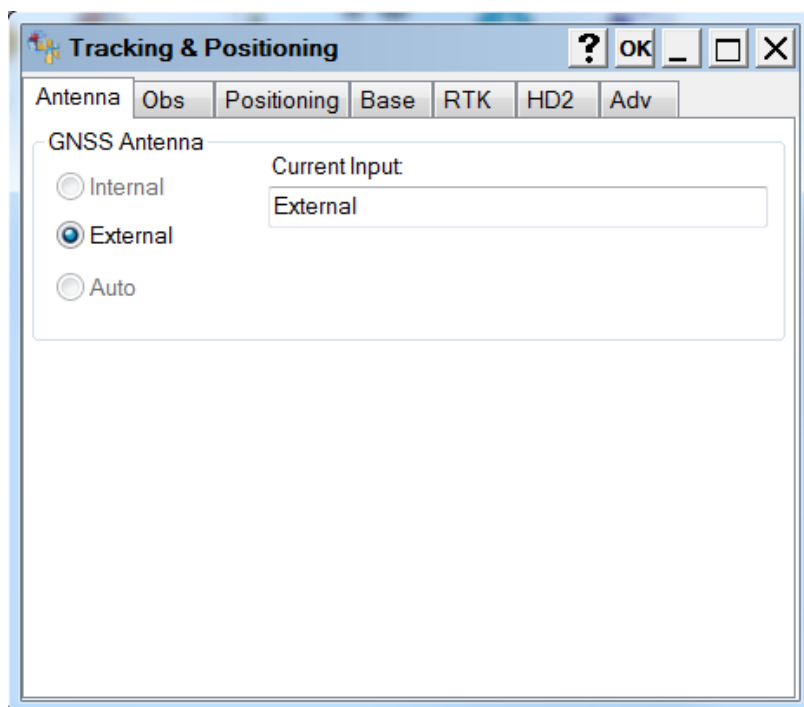

Figure 27: Set Antenna Usage
2. Click **Tracking & Positioning**. The **Tracking & Positioning** screen appears (Figure 27 on page 28).